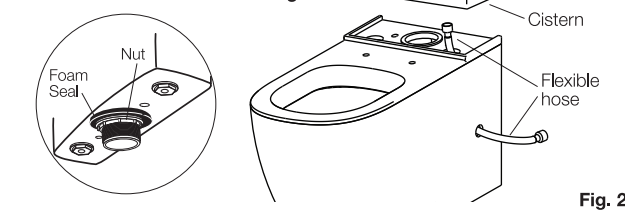

Fig. 2
- 1- Ensure the foam seal at base of cistern is securely attached to cistern base, as detailed in **Fig. 2**.
- 2- Connect flexible hose to inlet valve and thread other end of flexible hose through side hole on pan, as detailed in **Fig. 2**. Position cistern onto pan and align the cistern fixing holes with the threaded fixing holes located in the cistern platform.
- 1- Securely attach the self-adhesive foam seal around the outlet on the base of cistern, as detailed in **Fig. 2**. Remove inlet valve to gain access to the right hand cistern fixing hole.